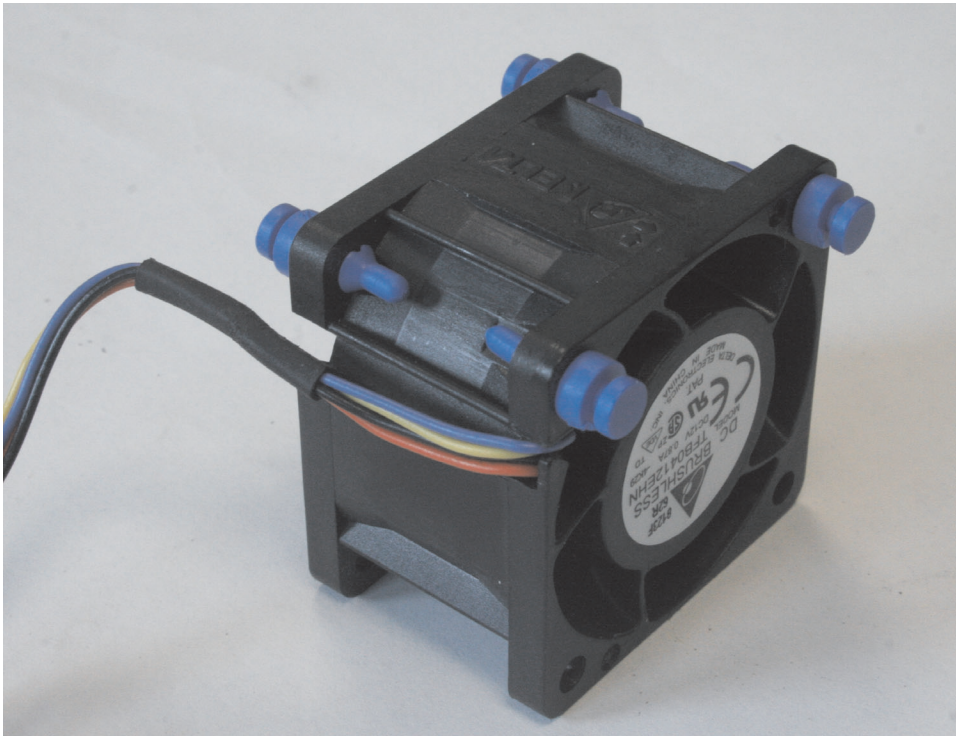

Figure 247. A close up of the SAN Volume Controller 2145-8A4 fan
1. Position the replacement fan, shown in Figure 247 on page 248, so that the airflow arrow on the side of the fan points toward the rear of the node.